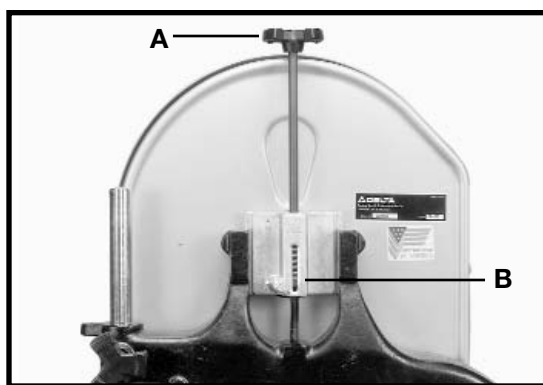

Fig. 21
A series of graduations is located on the back of the upper wheel slide bracket. These graduations indicate the proper tension for various widths of blades. With the blade on the wheels, turn the knob (A) Fig. 21 to raise or lower the wheel, until the red fiber washer (B) Figs. 21 and 23 is in line with the proper graduation for the size of the blade.